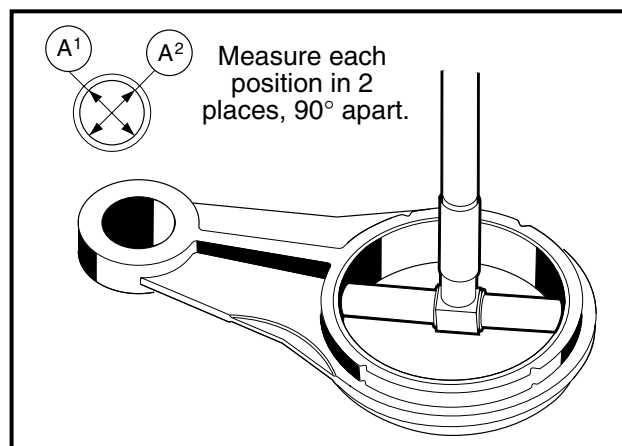

Figure 18-71 Measure Link Rod Large Bore I.D
- 1.3. If the inside diameter of the large end is greater than 1.9726 inches (50.106 mm), replace the link rod (**Figure 18-71, Page 18-34**). See following NOTE.